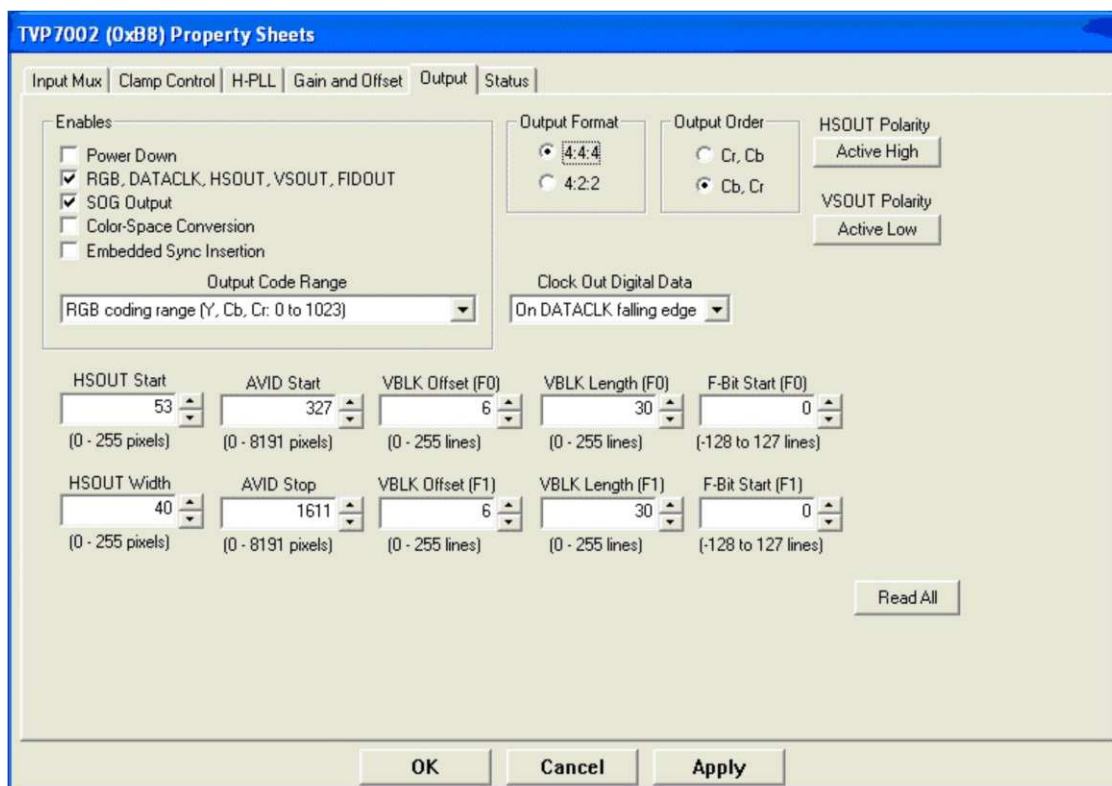

Figure 22. Output Property Sheet
The Output property sheet (see Figure 22) provides various controls for enabling outputs, selecting the output format, setting HSOUT polarity/position/width, and specifying embedded sync or Data Enable (DE) output timing. At power-up, the RGB data, DATACLK, and syncs will be in a high impedance state until enabled in I²C register 17h or until programming the TVP7002 with one of the datasets included in the initialization file. The DATACLK output polarity is selectable in I²C register 18h.